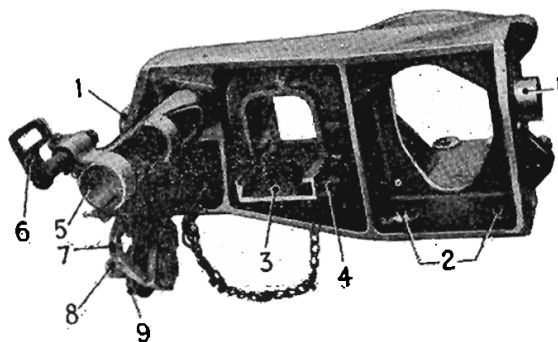

Figure 101. Cradle
The cradle (see Fig. 101) is bolted to the outer mantlet and mounted by means of trunnions (1) supported in trunnion bearing housings (1, Fig. 102) bolted to the splash plates, and pivots about a horizontal axis when the guns are being elevated or depressed. The recoil cylinder is bolted to the cradle through the intermediary of the bolt holes (2, Fig. 101) and in turn supports the 37 m/m gun sleigh, the Besa M.G. being mounted in the slide (3) and retained by a recoil bolt (4). The telescope housing (5) is bolted to the left of the cradle and carries a browpad (6). A clamping gear quadrant (7) co-operates with a locking pin (8) and nut (9) to hold the cradle stationary when desired.